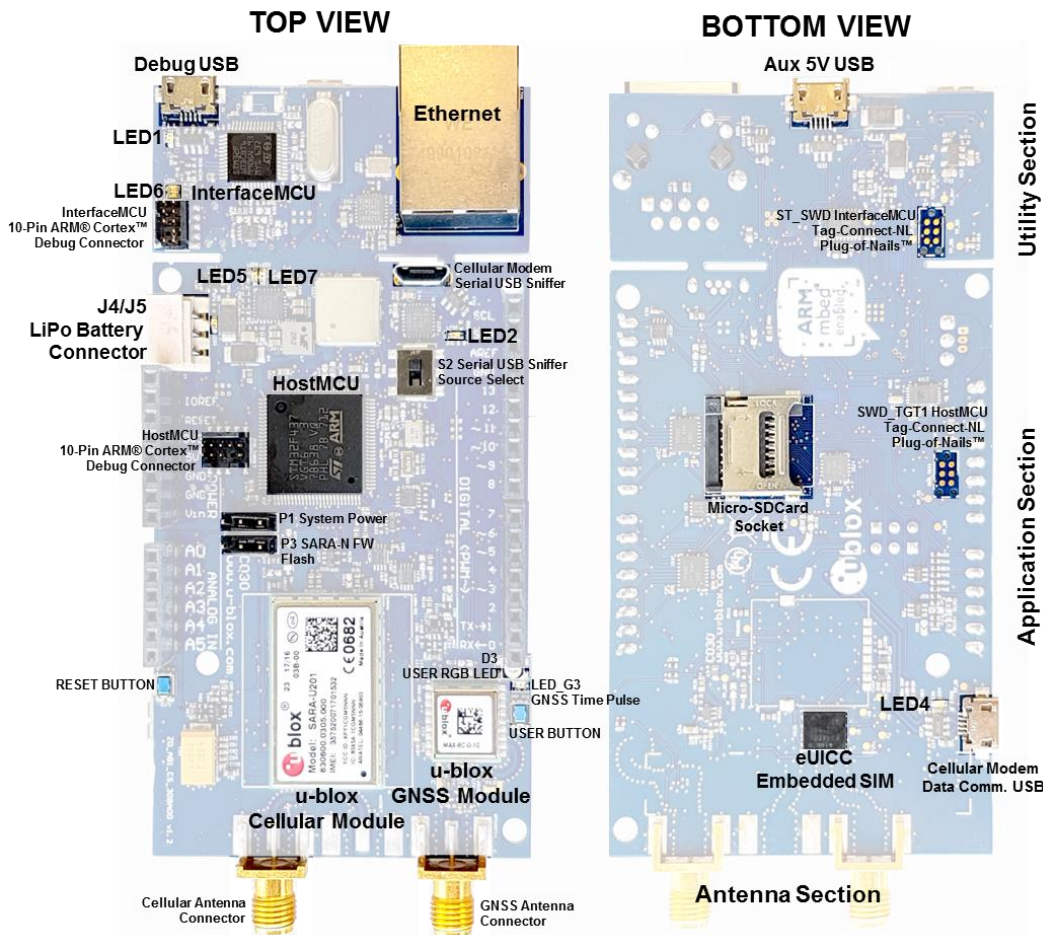
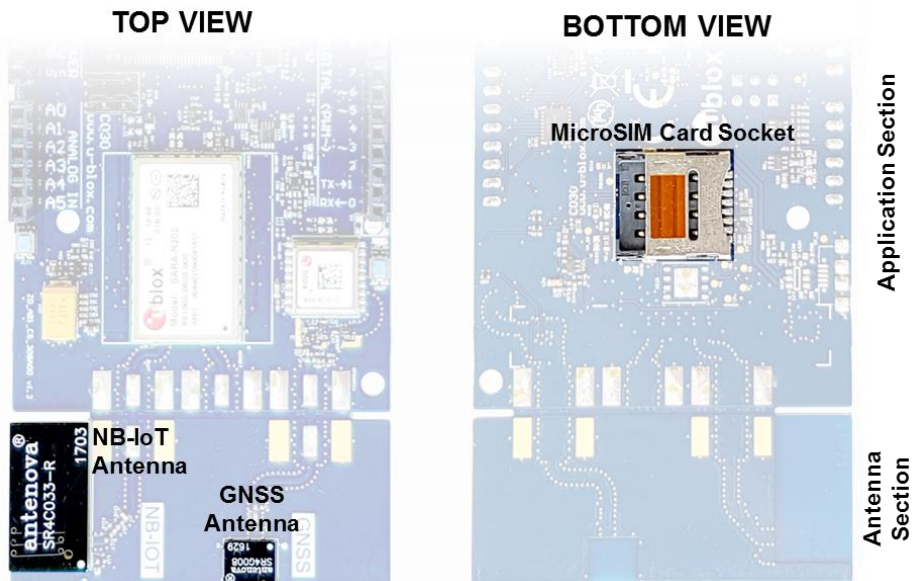

Figure 4: C030-U201 major component locations
Figure 5: C030-N211 variant specific component locations
- The C030-U201 and C030-N211 major component layouts are provided in Figure 4 and Figure 5.
The C030-N211 NB-IoT variant specific component locations are shown in Figure 5.
The C030 is equipped with several buttons, jumpers and a switch that could be easily utilized by the user. The functions and locations of these components are provided in Table 1 and shown in Figure 4.
The C030 LED indicators are listed in Table 2 and their locations are depicted in Figure 4.
The C030 has various connectors as listed in Table 3. See Figure 4 and Figure 5 for connector locations.